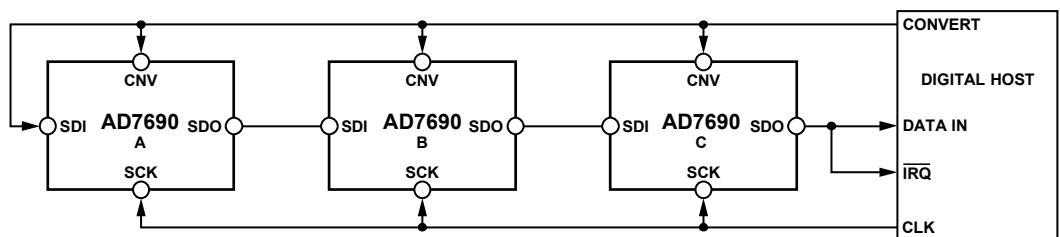
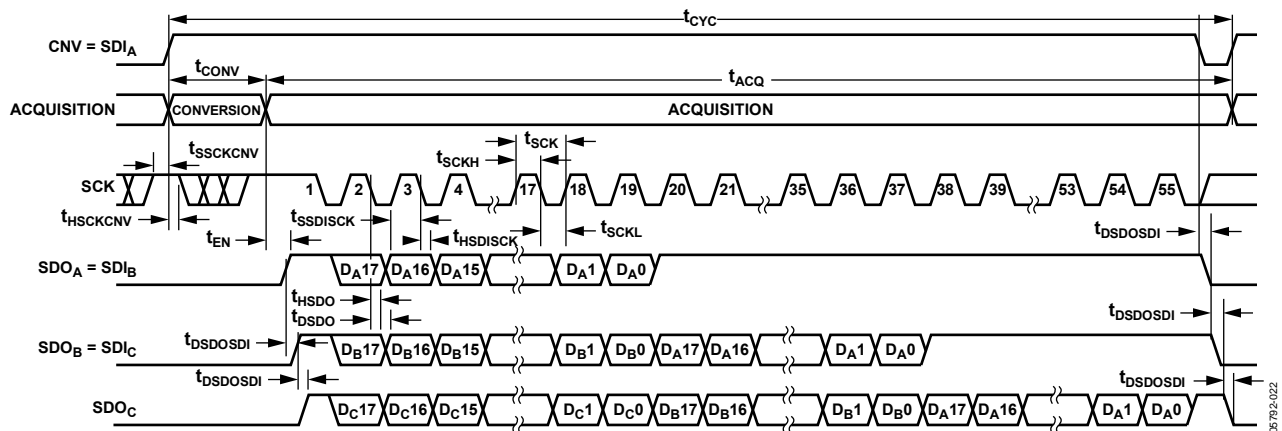

Figure 44. Chain Mode with Busy Indicator Connection Diagram
Figure 45. Chain Mode with Busy Indicator Serial Interface Timing
- In chain mode if SCK is high during the CNV rising edge (see Figure 45).
A connection diagram example using three AD7690s is shown in Figure 44, and the corresponding timing is given in Figure 45.
completed their conversions, the SDO pin of the ADC closest to the digital host (see the AD7690 ADC labeled C in Figure 44) is driven high. This transition on SDO can be used as a busy indicator to trigger the data readback controlled by the digital host. The AD7690 then enters the acquisition phase and powers down. The data bits stored in the internal shift register are clocked out, MSB first, by subsequent SCK falling edges. For each ADC, SDI feeds the input of the internal shift register and is clocked by the SCK falling edge. Each ADC in the chain outputs its data MSB first, and $18 \times N + 1$ clocks are required to read back the N ADCs. Although the rising edge can be used to capture the data, a digital host using the SCK falling edge allows a faster reading rate and consequently more AD7690s in the chain, provided the digital host has an acceptable hold time.